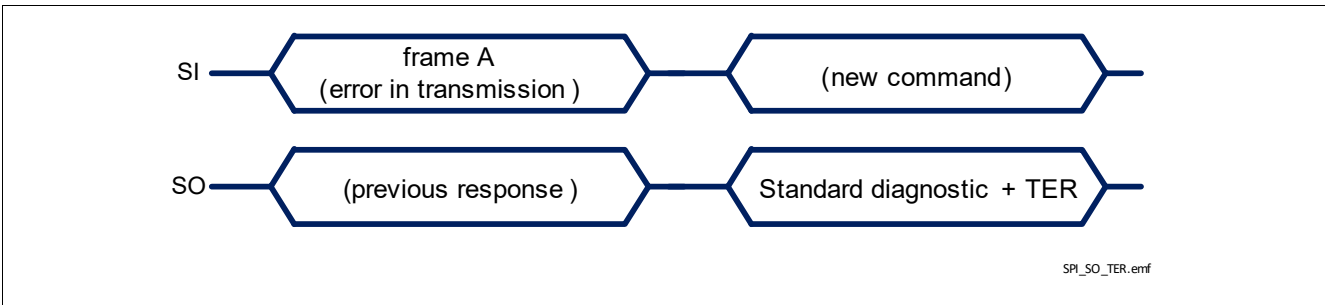

Figure 30 TLE75008-ESD response after a error in transmission
- in case an error in transmission happened during the previous frame (for instance, the clock pulses were not multiple of 8 with a minimum of 16 bits), shown in **Figure 30**